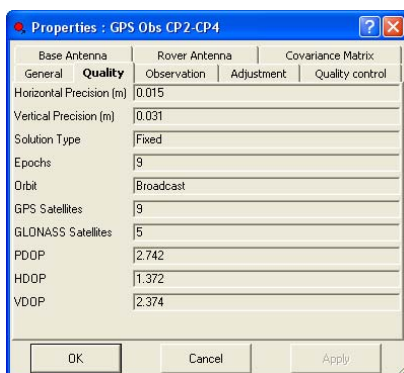

Figure 5-111. Quality Properties
4. View *Quality* tab fields which contain the fields for viewing (Figure 5-111 on page 5-74):